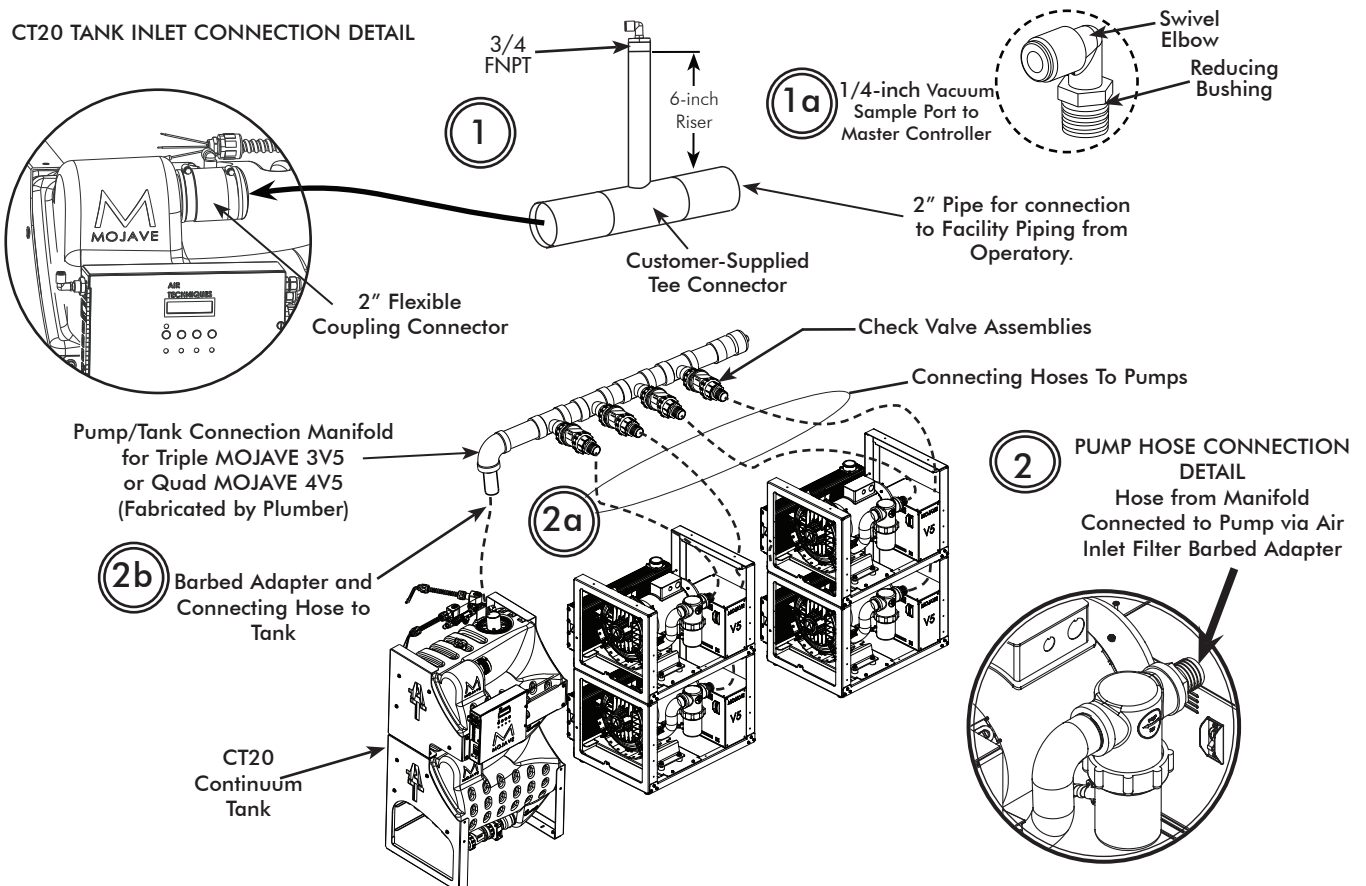

Figure 12. 3V5 or 4V5 System Connection Detail Using Accessory Kit
5. Using customer-supplied $\frac{3}{4}$ inch and 2 inch pipe, fabricate an inlet tee connector as shown by Figure 12. Install an $\frac{1}{4}$ -inch elbow connector to the $\frac{3}{4}$ inch riser of the tee connector using an $\frac{3}{4}$ inch bushing. Both the elbow connector and bushing are provided in accessory pack H5243 or H5289.
8. Measure and record distance between each connection point as shown in the corresponding connection detail diagram, Figure 12.
1. **Suction Line to Tank Inlet Connection.** Refer to Figure 12, item (1).
- d. Install a length of 1/4 inch OD Urethane Tubing (P/N 51453) between the vacuum sample port and the vacuum inlet port of the Master Controller. See Figure 12, item (1a.).
2. **Tank Air Outlet to Pump Inlets Connection.** Refer to Figure 12, item (2).
- a. Connect 1 1/2" ID, clear hose (P/N 54521) cut for installation between the barb connectors of the Pump/Tank Connection Manifold check valves and the air inlet filter of each pump. Secure with four hose clamps (P/N 57169). See Figure 12, item (2a).
- b. Connect 1 1/2" ID, clear hose (P/N 54521) cut for installation between the tank outlet port and barb connector of the Pump/Tank Connection Manifold. Secure with two hose clamps (P/N 57169). See Figure 12, item (2b).